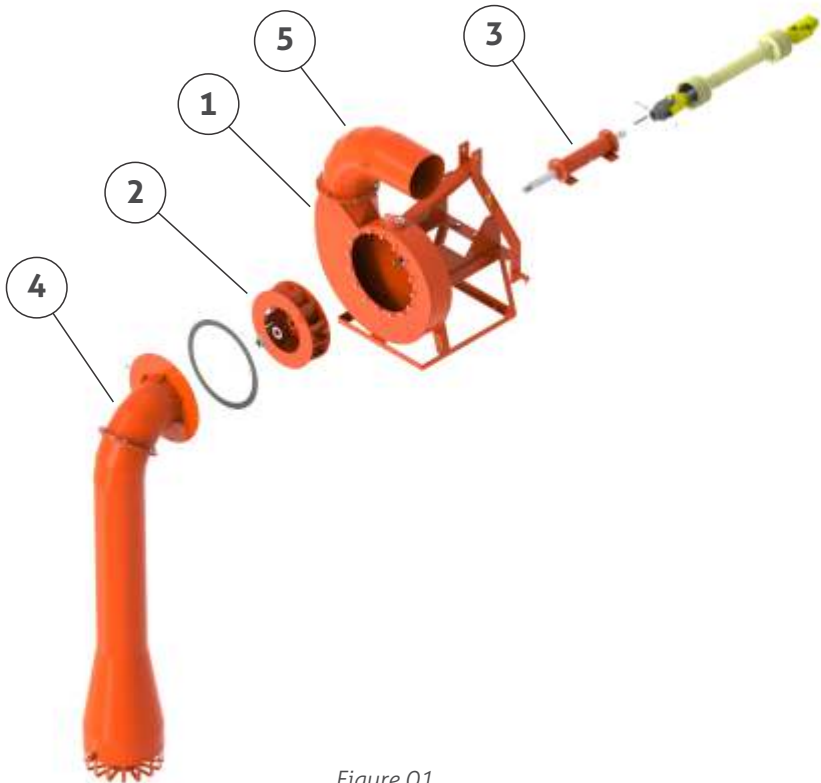

Figure 01
When powered by either an engine or the tractor with a rotational speed enhancement system, the Pump can withstand lifts of up to 14 meters, except for the BCI 300E model, which can reach heights of up to 20 meters. It comes with a 1.5-meter suction pipe (4), a 45-degree flanged elbow, and a foot valve with a strainer, as shown in Figure 01 below.